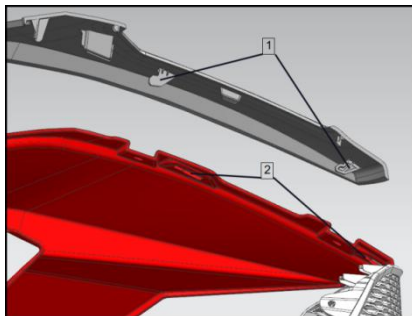

Fig.34
1. Connect the hood (pose 1, Figure 34) with the hook slot (pose 2, Figure 34).